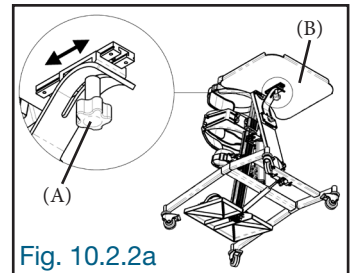

Fig. 10.2.2a
Slightly loosen the locking knob (A) under the table and slide the table (B) forward or backward. At the desired position, tighten the locking knob (A) firmly to secure the table in place (Fig. 10.2.2a).